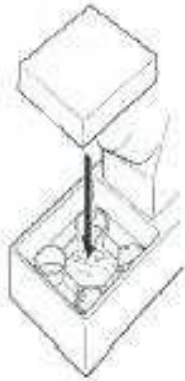

Fig. 8
- Install the cleaning sponge into the seat. (Fig. 8)